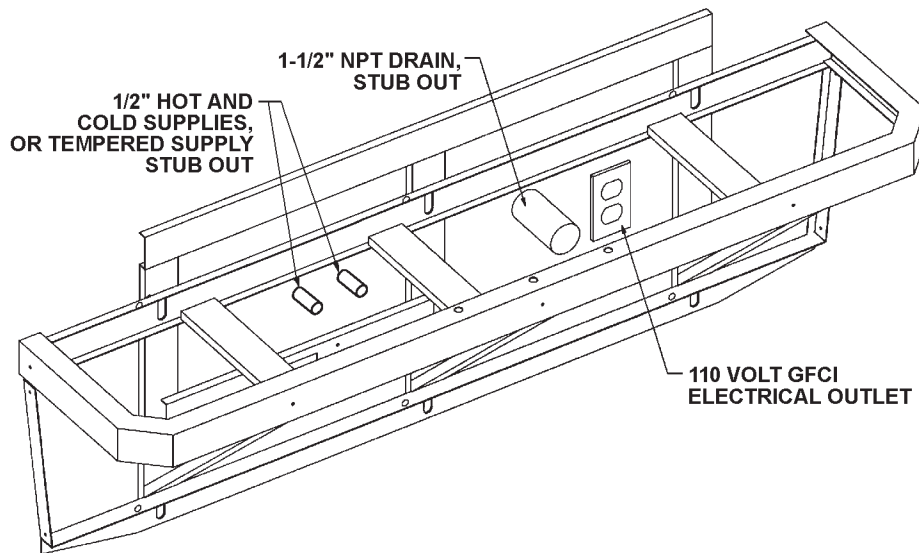

Figure 2
3. Install the 110 volt GFCI electrical outlet per local code at the location shown in Figure 2 on page 5.